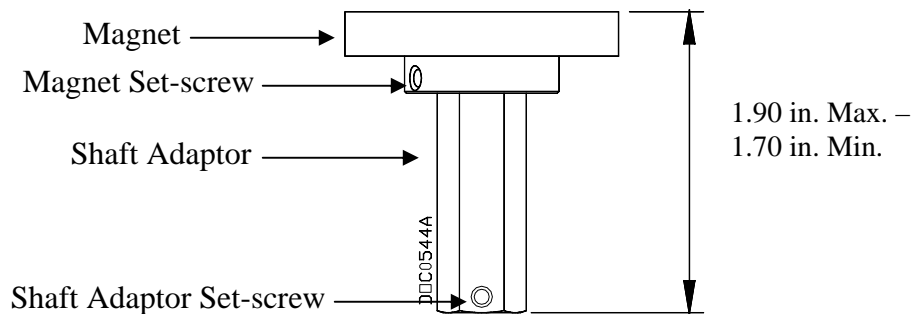
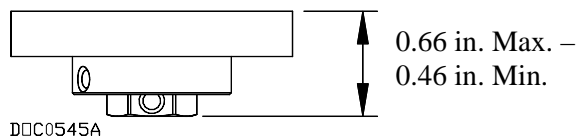
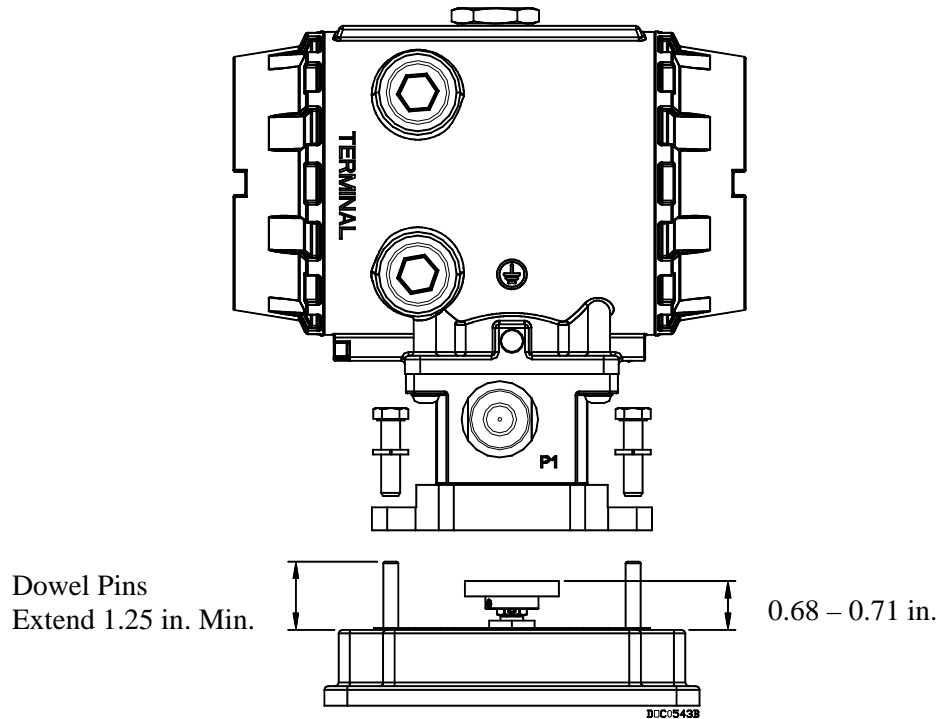

Figure 2-4. Magnet Installed on Long Shaft Adaptor
Figure 2-5. Magnet Installed on Short Shaft Adaptor
Figure 2-6. Shaft Adaptor, Magnet and Dowel Pins Installed
To attach the FloBoss 104 and Pulse Interface Meter to a **turbine** meter, attach the universal mounting plate on the base of the Pulse Interface Module to the meter flange. Use 5/16-inch bolts (user-supplied). Refer to Figure 2-6.
5. Thread the magnet assembly on to the shaft adaptor until the top of the magnet is between 0.68-0.71 inches above the meter housing. Refer to Figure 2-6. The magnet set-screw should be positioned over a flat in the hex shaft adaptor. Tighten the set-screw to lock the magnet assembly in place. Refer to Figure 2-4 and Figure 2-5.